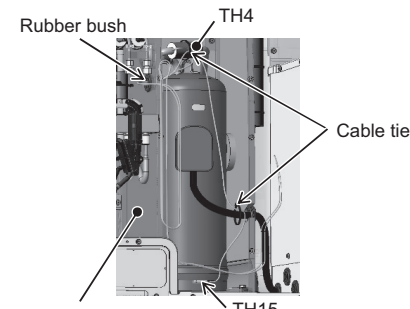

Figure 3
- (3) Cut the two cable ties holding TH4 and TH15, and remove the wiring from the rubber bush on the left compressor cover. (See Figure 3.)
- (15) The recommended tightening torque for the compressor fixing bolts is 3.0 N·m. Fasten the bolts using a torque wrench or other tool that can apply the specified torque.
- (16) Re-place the compressor covers in the reverse order as they were removed.
*Hold the TH15 wiring in place with the bands to keep the wiring from coming in contact with insulation 2. (See Figures 3 and 7.)